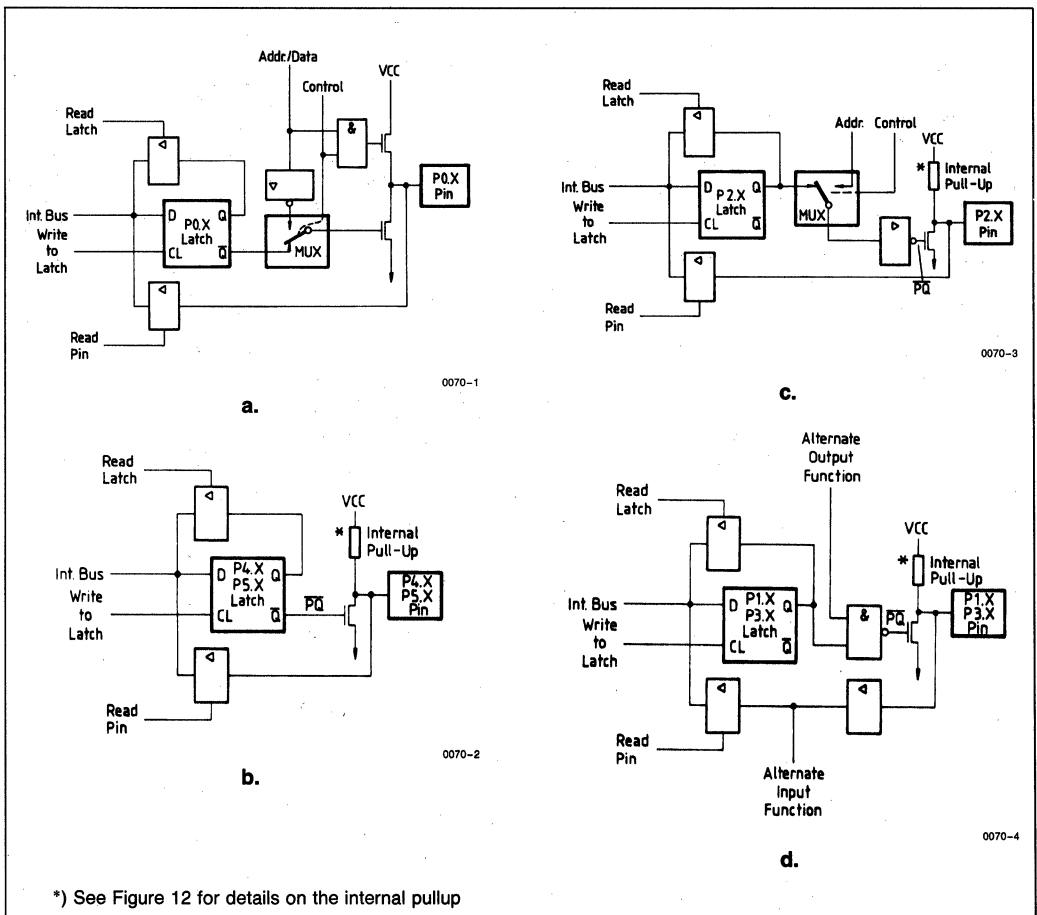

Figure 11. Port Bit Latches and I/O Buffers
Figure 11 shows a functional diagram of a typical bit latch and I/O buffer in each of the six ports. The bit latch (one bit in the port's SFR) is represented as a D-type flip-flop, which will clock in a value from the internal bus in response to a "write to latch" signal from the CPU. The Q output of the flip-flop is placed on the internal bus in response to a "read latch" signal from the CPU. The level of the port pin itself is placed on the internal bus in response to a "read pin" signal from the CPU. Some instructions that read a port, activate the "read latch" signal, and others activate the "read pin" signal. More about that in the section "Read-Modify-Write Feature" (3.1.4).
As shown in Figures 11a and 11c, the output drivers of ports 0 and 2 are switchable to an internal address and address/data bus by an internal control signal for use in external memory accesses. During external memory accesses, the P2 SFR remains unchanged, but the P0 SFR gets 1s written to it. Also shown in Figure 11, is that if a P1 or P3 bit latch contains a one (1), then the output level is controlled by the signal labeled "alternate output function". The actual P1.X or P3.X pin level is always available